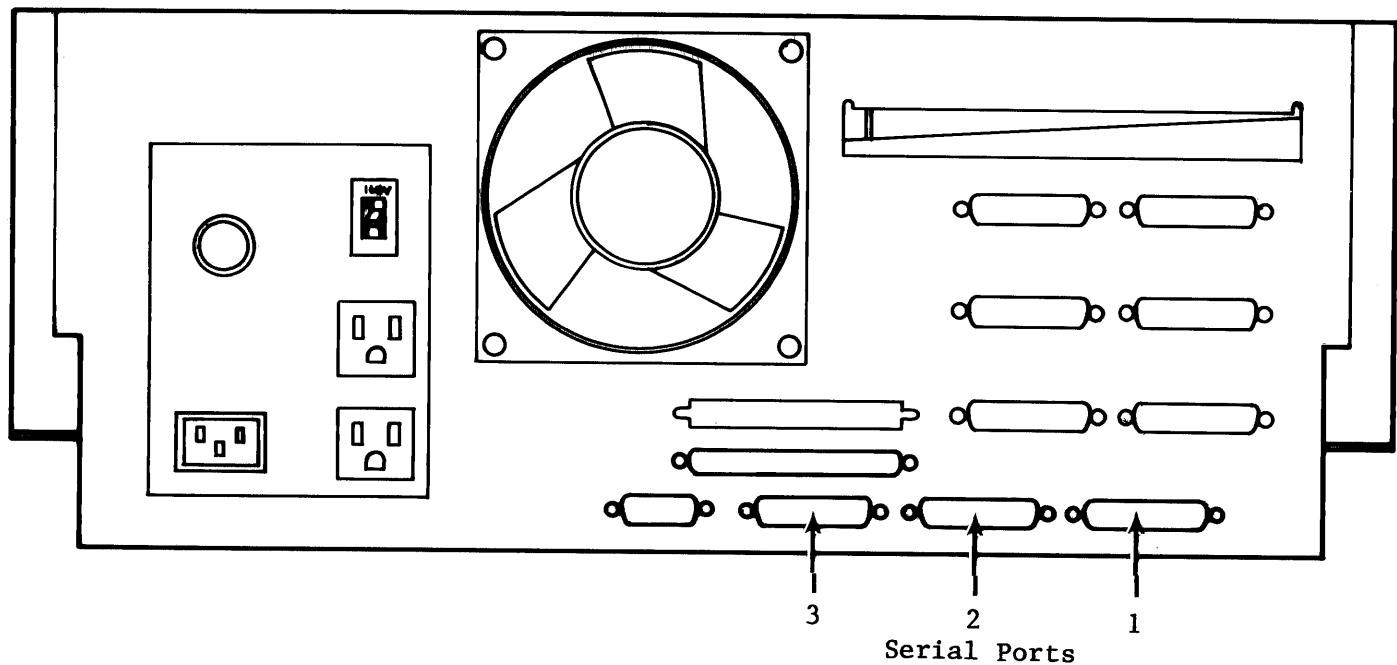
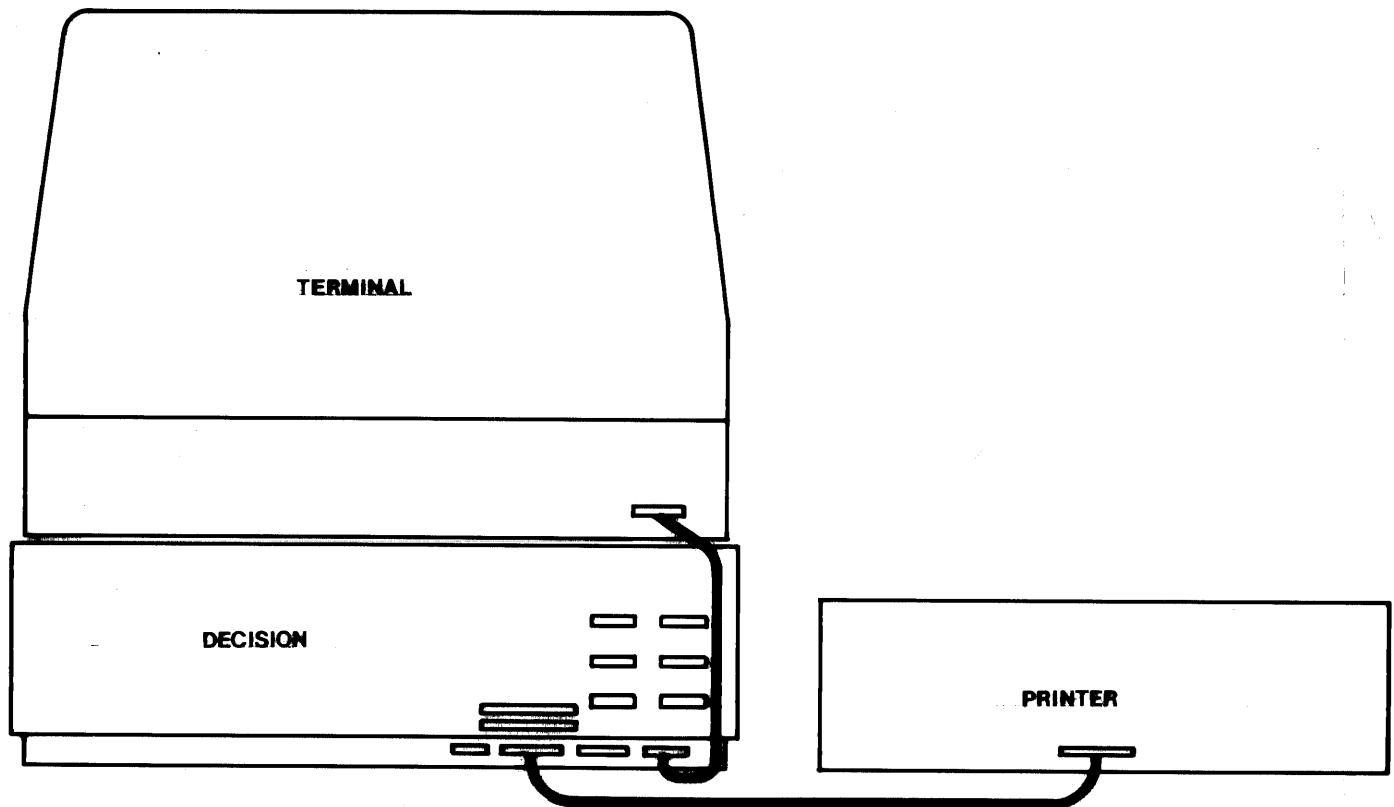

Figure 4-1: Decision Rear Panel
Figure 4-2: Connecting a Printer and Terminal
Your video terminal and printer must be connected to the Decision, and all of the devices plugged into the AC power source, before your new system can be used. This process is called "installation". Connecting a video terminal, a printer and optional, externally connected drives is accomplished by plugging in the appropriate cables to the proper connectors on the Decision rear panel. Power cords are also connected to the Decision using the AC power receptacle and utility outlets located on the rear panel. Figure 4-1 illustrates the location and labels of each rear panel connector.
2. Connect one end of the video terminal cable to the Decision rear panel port labeled Serial Port 1 (see Figure 4-1). Connect the other end of the cable to a port on the back of the terminal (see Figure 4-2).
A gummed label (sticker) will cover the AC power receptacle on the rear panel of the Decision (see Figure 4-1). This label will verify the power configuration of your unit. Make sure that this setting matches the installation site before removing the label and plugging in the Decision power cord!!
1. Plug the 50 pin printer cable connector into the pin socket labeled DAISY PRINTER (see Figure 4-1).
Your Decision is shipped with two disk drives installed, a hard disk and a 5 1/4" floppy; they are connected to separate drive controller boards located inside the computer. If you wish to add on an additional 8" inch floppy disk drive, it must be connected externally, through the port labeled "8" FLOPPY" (see Figure 4-1). Instructions for cabling, port addressing and general information about externally connected 8" floppy drives is provided in Section 11.11 of this manual. If you are connecting any other type of disk drive, refer to the supplemental "Disk Drive Add-On" documentation supplied with your Morrow disk drive.